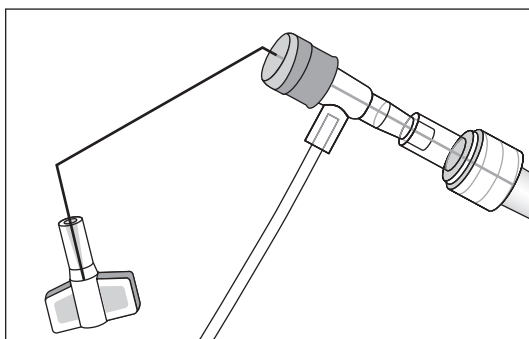

Figure 5
- Kink proximal end of placement wire at connector with side-port (see Figure 5). This minimizes the risk of placement wire